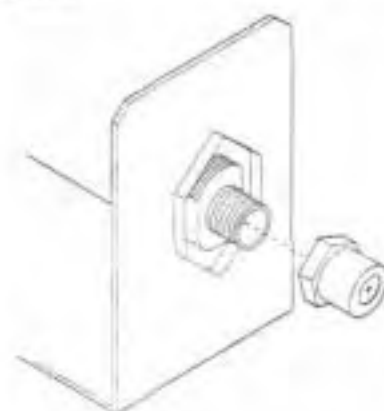

Figure 39
To derate this unit, order and install the appropriate high altitude orifice kit per the chart below. Remove two (2) screws found at the base of the burner tray and remove the burner tray with tube. Use care to prevent damage to the air shutter adjustment rod. Remove the orifice (Figure 39) and replace with the appropriate one from the kit. Refer to the following chart. Be sure to attach the conversion sticker provided with the kit to the rating plate on the appliance.